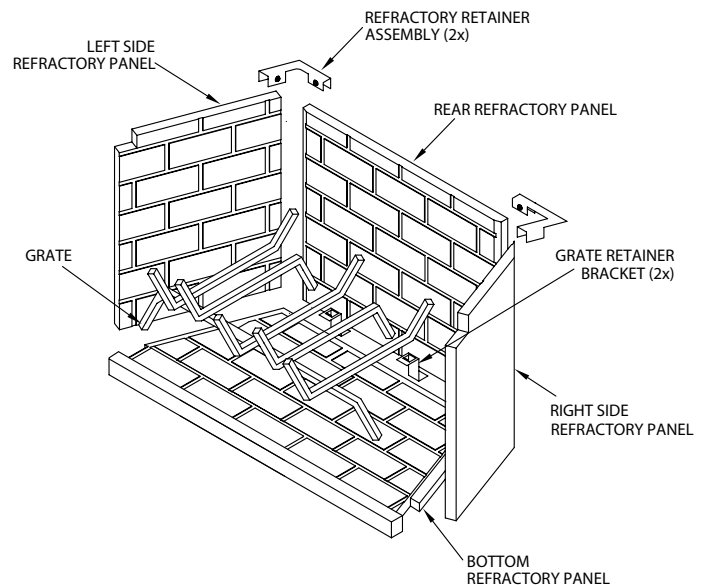

Figure 3 - Installing Refractory Panels
5. Install refractory retainer assemblies and tighten set screws (see Figure 3).
6. Install grate by placing rear legs into slots in the grate retainer bracket(s) (see Figure 3).